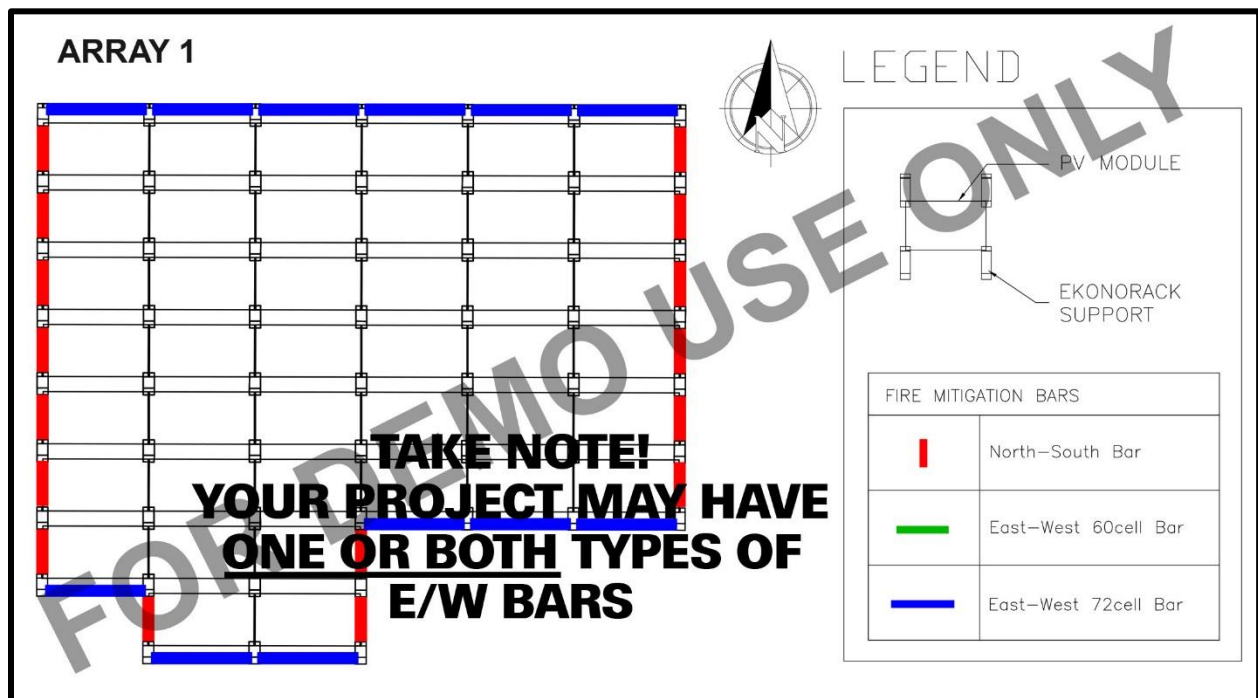

Fig. 6 - Sample Fire Mitigation Bar Diagram
- 1 Use your project specific *Fire Mitigation Bar Plan* to lay out fire mitigation bars and L-brackets at required locations (see example, Figure 6).
Use your project specific *Paver Layout* to place paver block combinations onto all module supports (see example, Figure 6).